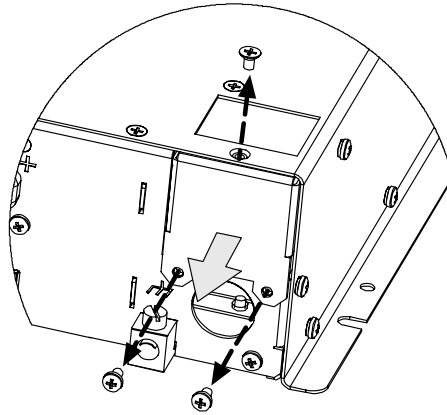

Figure 2-7 Removing the 3 Screws on the Wiring Box Access Panel
3. Locate the wiring box access panel, and remove the three screws to access the wiring box as shown in Figure 2-7.